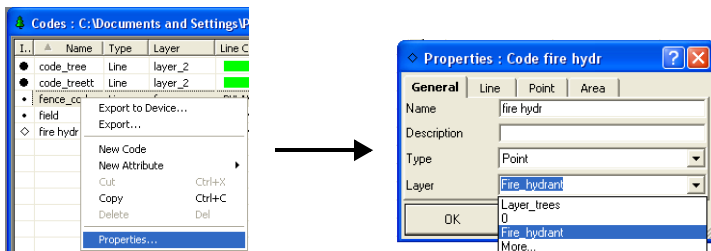

Figure 5-61. View Code Properties and Edit Name
1. Right-click the selected code and click **Properties** on the pop-up menu (Figure 5-61).
2. On the *General* tab, edit the code's name and description's names, select the type of the code (*point*, *line*, *area*, *auto*) and the layer (Figure 5-61). If the code is used for a point in the current job, the code's fields, description's names and the type of the code are not editable.